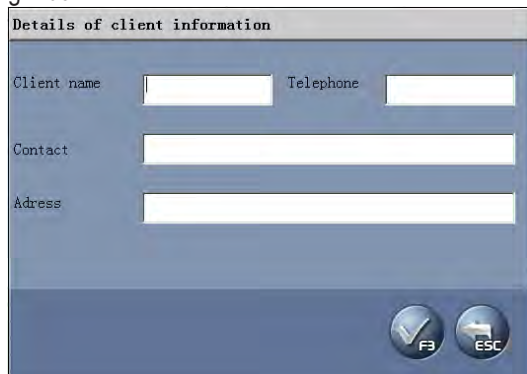

Fig.4.39
**[Add]:** Click this button, and then add the client information in the pop-up window for detailed information of the client. The interface is as shown in Fig.4.39.